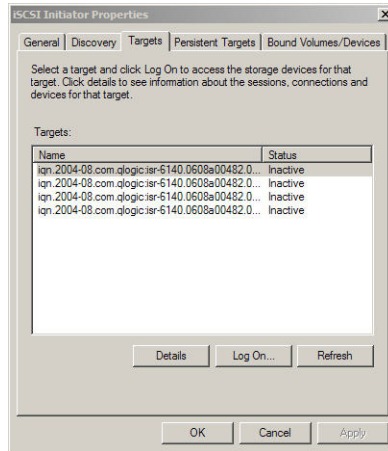

Figure 8. iSCSI Initiator Properties
- c. On the iSCSI Initiator Properties page, click the **Targets** tab (see Figure 8).